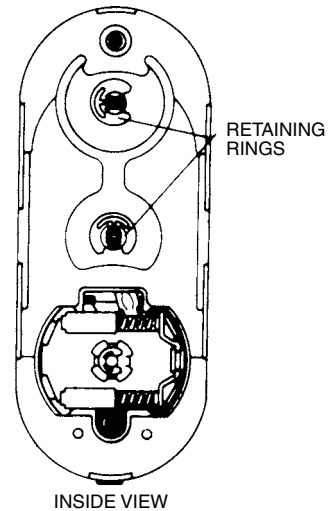

Figure 13.88 Changing hand, Step 19.
19. Install the inside retaining rings (Fig. 13.88).